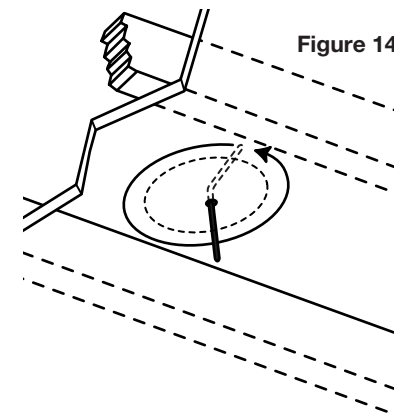

Figure 14
3. Cut a foot-long piece of coat hanger. Bend the wire (creating a right angle) leaving 4-1/8" at one end for the CM5PR and 4/3/4" for the CM6PR (this allows for the extra width of the mounting dogs). Poke the "L-shaped" wire into the pilot hole and turn it in a complete circle and move it into the ceiling cavity to make sure you have approximately 3-3/4" of depth. If the wires movement is obstructed by anything, fill the hole(s) with spackle and try another location. (See Figure 14)